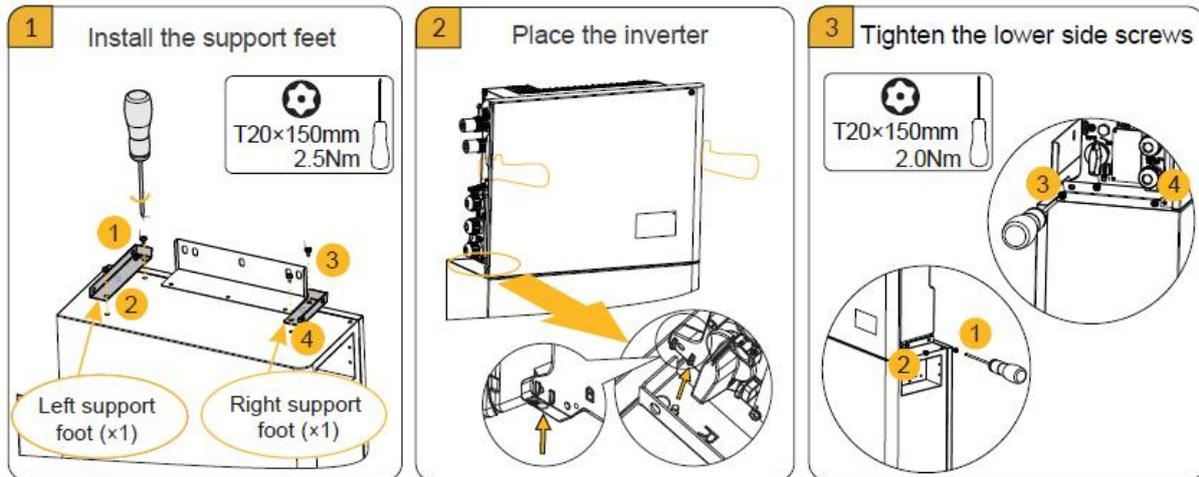

Figure 5-11 Inverter installation diagram
2. Mount the left support foot and right support foot onto the top of the upper battery. Refer to 1 in Figure 5-11.
4. When doing so, the lower right and left holes on the bottom of the inverter must be inserted into the respective guides in the support feet. Refer to 2 in Figure 5-11.
5. Attach the inverter to the side support feet. The inverter mounting holes should align to the horizontal holes of the side support feet. Note that the inverter sits inside (between) the two feet and is secured with two screws on the left and right sides. Refer to 3 in Figure 5-11.